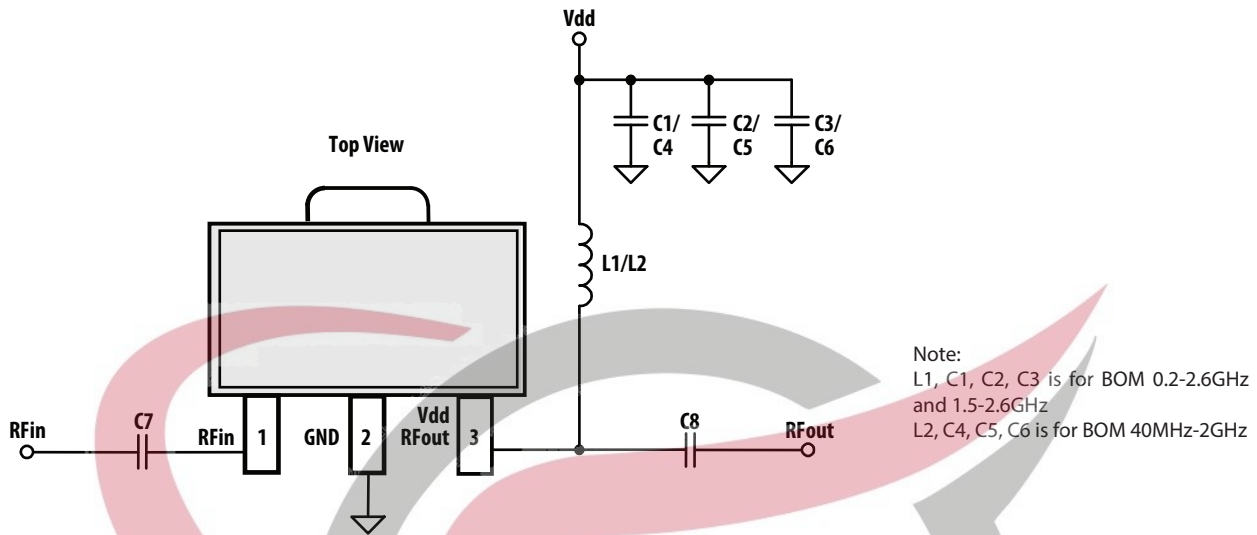

Figure 30. Application Schematic
1. Measurements obtained using demo board described in Figure 30 and 31. 40MHz data was taken with 40MHz - 2GHz Application Test Circuit, 900MHz data with 0.2GHz - 2.6GHz Application Test Circuit and 1.95GHz data with 1.5GHz - 2.6GHz Application Test Circuit respectively.
$T_A = 25^\circ\text{C}$, $V_{dd} = 5\text{V}$, Input Signal=CW. Application Test Circuit is shown in Figure 30 and Table 1.
$T_A = 25^\circ\text{C}$, $V_{dd} = 5\text{V}$, Input Signal=CW. Application Test Circuit is shown in Figure 30 and Table 2.
$T_A = 25^\circ\text{C}$, $V_{dd} = 5\text{V}$, Input Signal=CW. Application Test Circuit is shown in Figure 30 and Table 3.